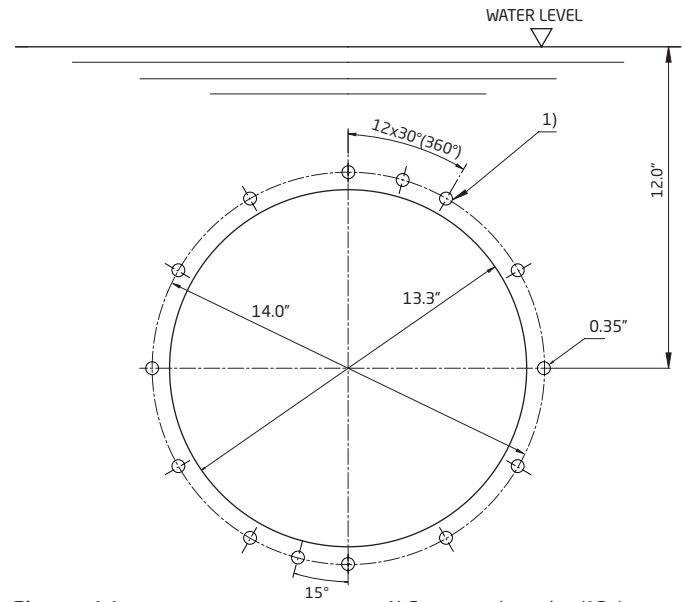

Figure 11
2. Using the template shown in Figure 11, mark and drill the fourteen (14) M8 holes through the pool wall.